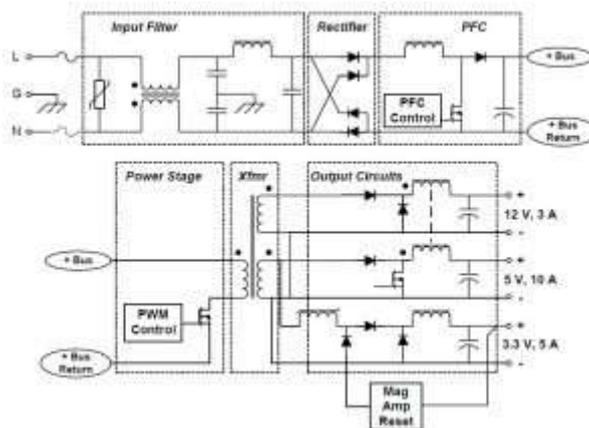

Figure 1: Functional Block Diagram of a Forward Converter AC/DC Power Supply
Converters steer an alternating current, as its voltage also alternates, into reactive impedance elements, such as inductors (L) and capacitors (C), where it is stored and integrated. This process separates the power associated with the positive and negative potentials. Filters are used to smooth out the energy stored, resulting in creation of a DC source for other circuits. This circuit can take many forms but always comprises of the same essential elements, and may have one or more stages of conversion. The converter depicted in figure 1 is called a ‘forward converter’, which is a higher efficiency than a slightly simpler architecture; a ‘flyback converter’. Although not discussed in detail, a flyback converter differs from a forward converter in that its operation depends upon energy stored in the airgap of the transformer in the circuit. Apart from this difference, they can utilize the same essential blocks.
The input filtering block will also typically include a voltage dependent resistor, or varistor to prevent high voltage spikes on the electrical power grid from damaging the power supply. This is the rectangular box with the diagonal line through it on the input in Figure 1. The most common type of varistor is a metal-oxide varistor (MOV). Any voltage over the devices ‘clamping voltage’ causes the MOV to become conductive, shunting the high voltage spike and suppressing the surge.
The simplest AC/DC converters comprise of a transformer following the input filtering, which then passes onto a rectifier to produce DC. In this case, rectification occurs after the transformer because transformers do not pass DC. However, many AC/DC converters use more sophisticated, multi-stage conversion topologies as depicted in figure 1 due to advantages of smaller transformer requirements and lower noise referred back to the mains power supply.
The converter depicted in figure 1 is a single stage PFC converter. The capacitor in this section is used to store the unbalanced energy between the pulsating input power and relatively constant output power of the stage. See the “Reactive Energy Storage” section for more details on this. Two stage PFC converters are commonly used as they don’t have to handle as wide a voltage range across the storage capacitor you get in universal power supplies, which has a detrimental effect on conversion efficiency. They can also offer better trade-offs in the capacitor size, and this can help reduce cost.
Figure 1 has a block called ‘Mag Amp Reset’ associated with demagnetizing the transformer due to a magnetization current inherent in the architecture. Without this, the remanence of the core material would saturate it in a few cycles of the power stage PWM. Although too complex to cover in this tutorial, this additional circuit can be very confusing when reviewing converter circuit diagrams, and it is useful to know why it is required. There are a number of techniques to perform demagnetization, the simplest being when the power stage switch is off a demagnetizing current is fed back diode through a separate auxiliary winding. This circuit restricts the maximum PWM duty cycle to 50%, but more complex methods can be used to enable higher duty cycles.